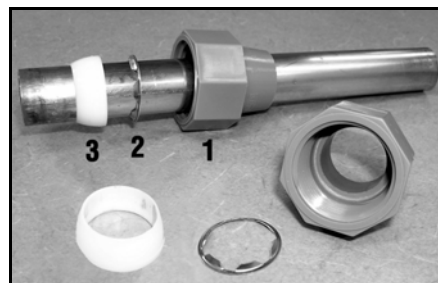

Figure 2: Qest Fittings
B. Install Qest fittings. Qest connection fittings are provided with your appliance. Qest fittings provide a convenient, easy-to-use three-piece assembly for 3/4-inch copper plumbing or 3/4-inch CTS CPVC plastic tubing (copper is shown in Figure 2). Ensure that the three components (1: collar, 2: metal retaining ring, and 3: nylon sleeve) are correctly installed in sequence on the pipe. (See Figure 2.)